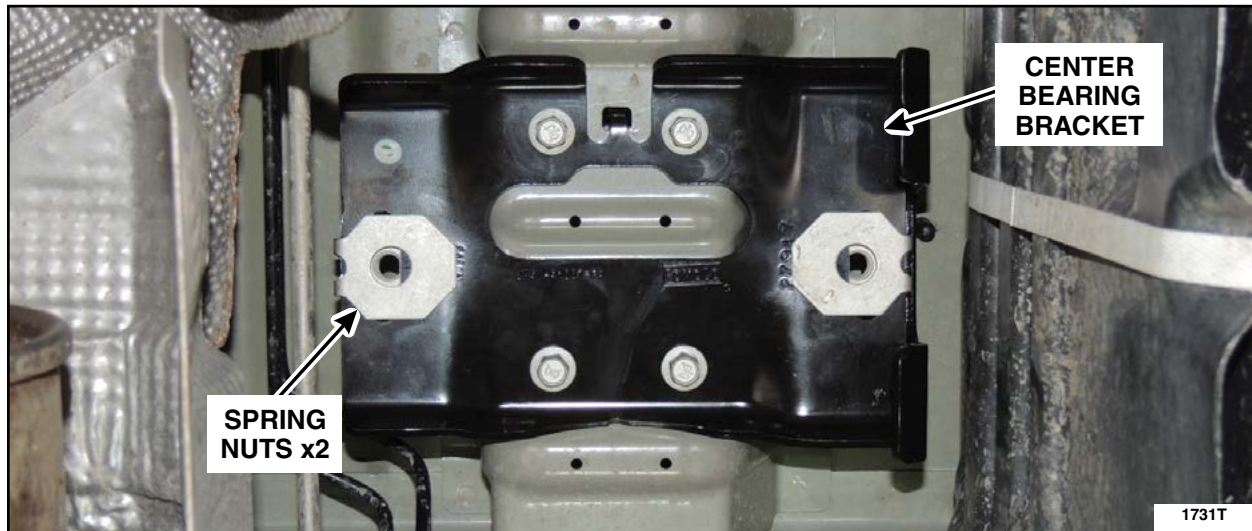

FIGURE 7
8. Install the *new* center bearing bracket using four *new* retaining bolts. See Figure 7.